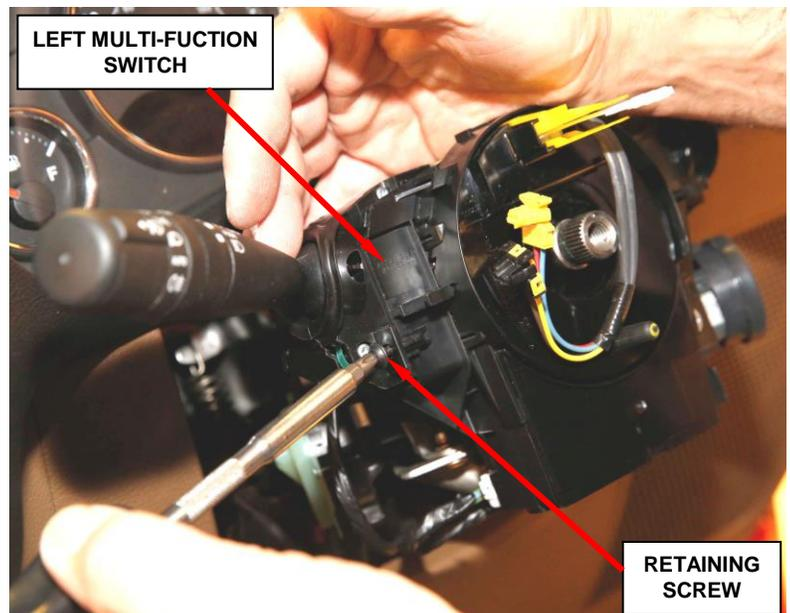

Figure 6 – Multi-Function Switch Retaining Screw (left side switch shown)
18. Install the left multi-function switch retaining screw. Tighten the screw to 10 in. lbs. (1 N·m) (Figure 6).